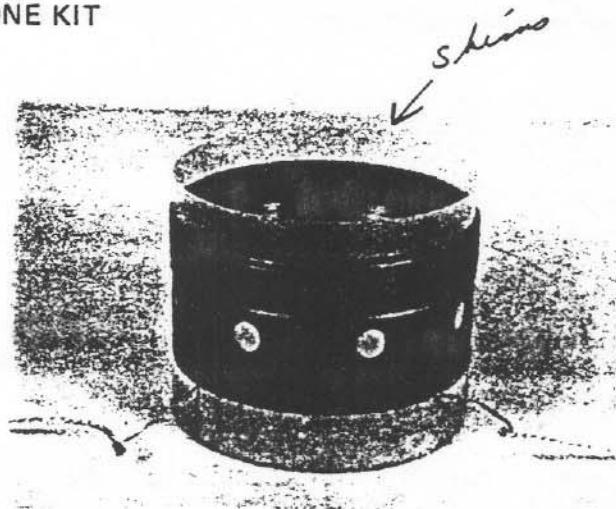

FIGURE 3
1. Set the coil form centering fixture assembly upright on a workbench. Slide the coil form assembly (5) over shim on fixture until end of coil form touches tape on the centering fixture (Figure 3).